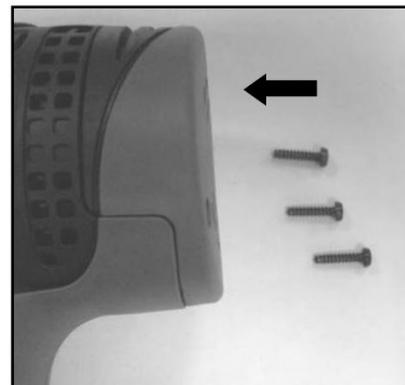

Fig.14
- Lock the housing back cover clockwise by using T10 size bit. (Fig.14)